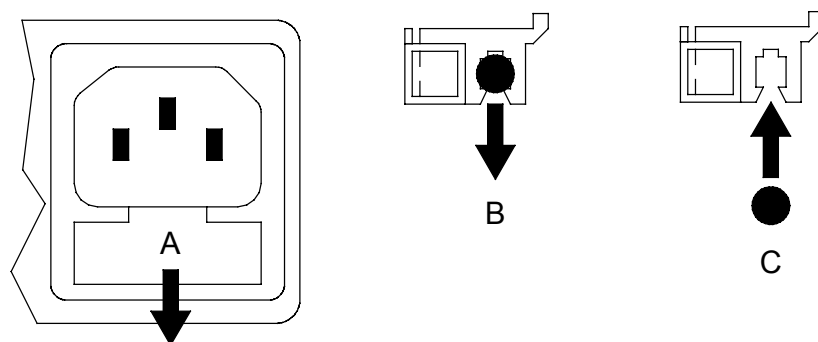

Figure 11 – Changing the Mains Fuse
Referring to Figure 11, remove the power cable, use a small flat bladed screwdriver to pry up the tab on the fuse carrier (A) and pull it out. Push the blown fuse out of the clip in the carrier (B) and dispose of it. Fit a new fuse in the clip (C) and push the carrier back into the unit so that it clicks home. Spare fuses are provided with the unit.